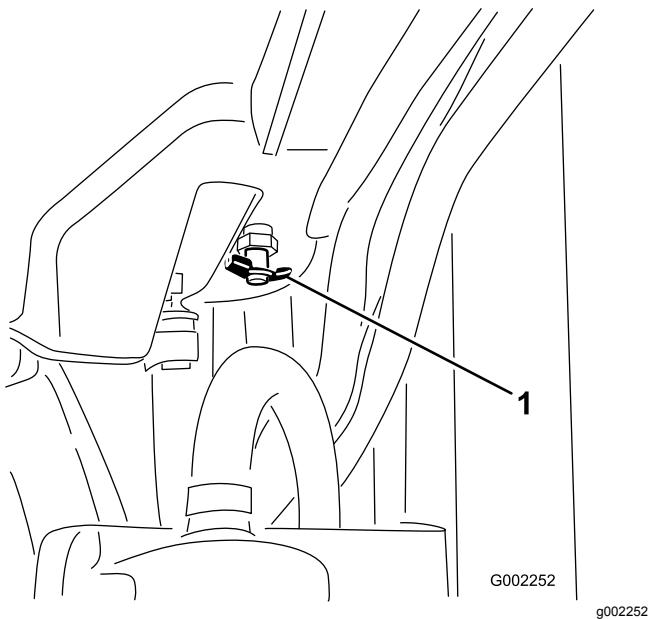

Figure 86
4. Open the drain valve and drain the coolant into the pan (Figure 86).
5. Close the drain valve (Figure 86).